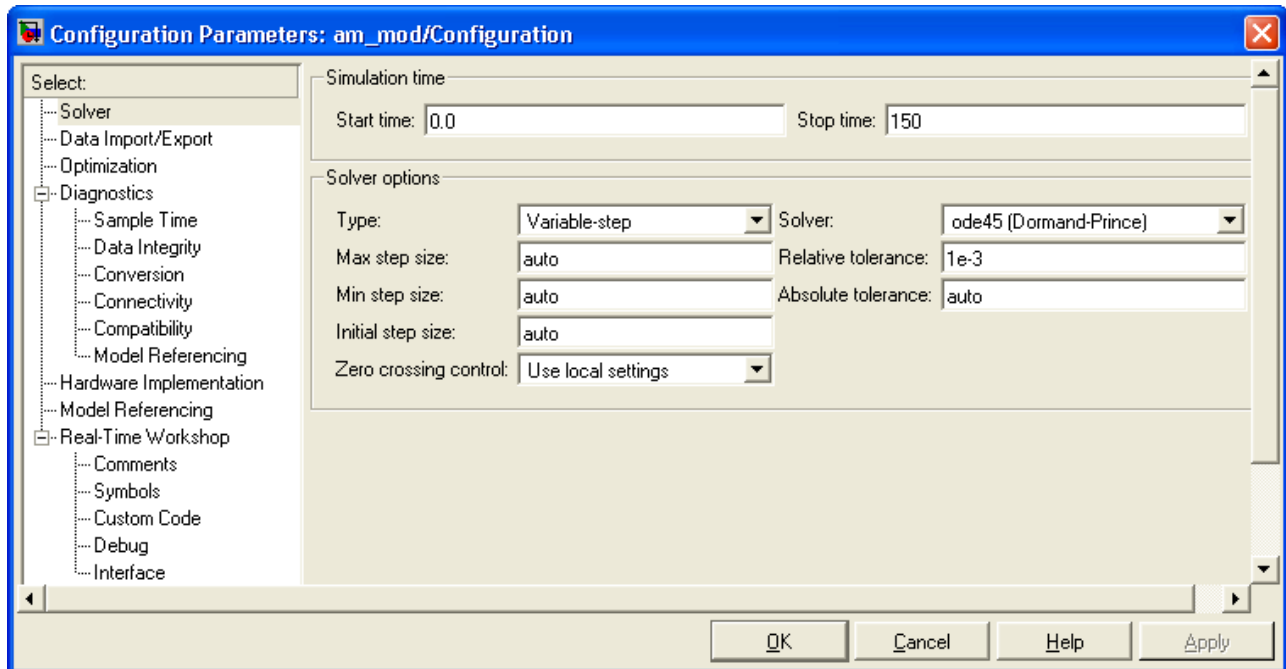

Figure 21: Configuration Parameters Window
- i. Select Apply, and then OK to save these values. The resulting Configuration Parameters window is shown in Figure 21.